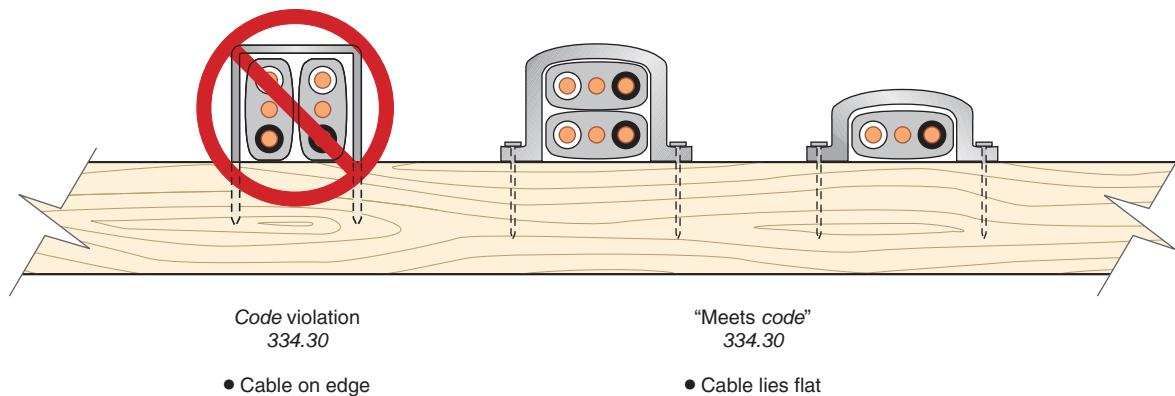

FIGURE 4-15 It is a *Code violation* to staple flat nonmetallic-sheathed cables on edge, 334.30. (Delmar/Cengage Learning)
- Do not staple flat nonmetallic-sheathed cables on edge, Figure 4-15.